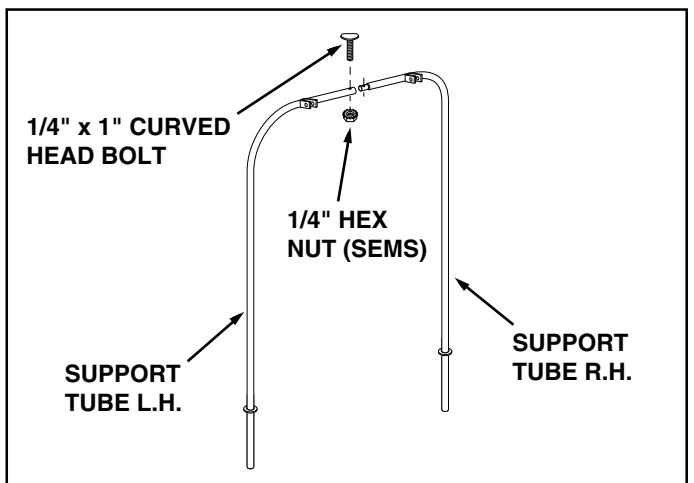

FIGURE 11
24. Assemble the reduced ends of the R.H. support tubes into the ends of the L.H. support tubes. Fasten the tubes together using two 1/4" x 1" curved head bolts, inserted from the top, and two 1/4" (SEMS) hex nuts. See figure 11.